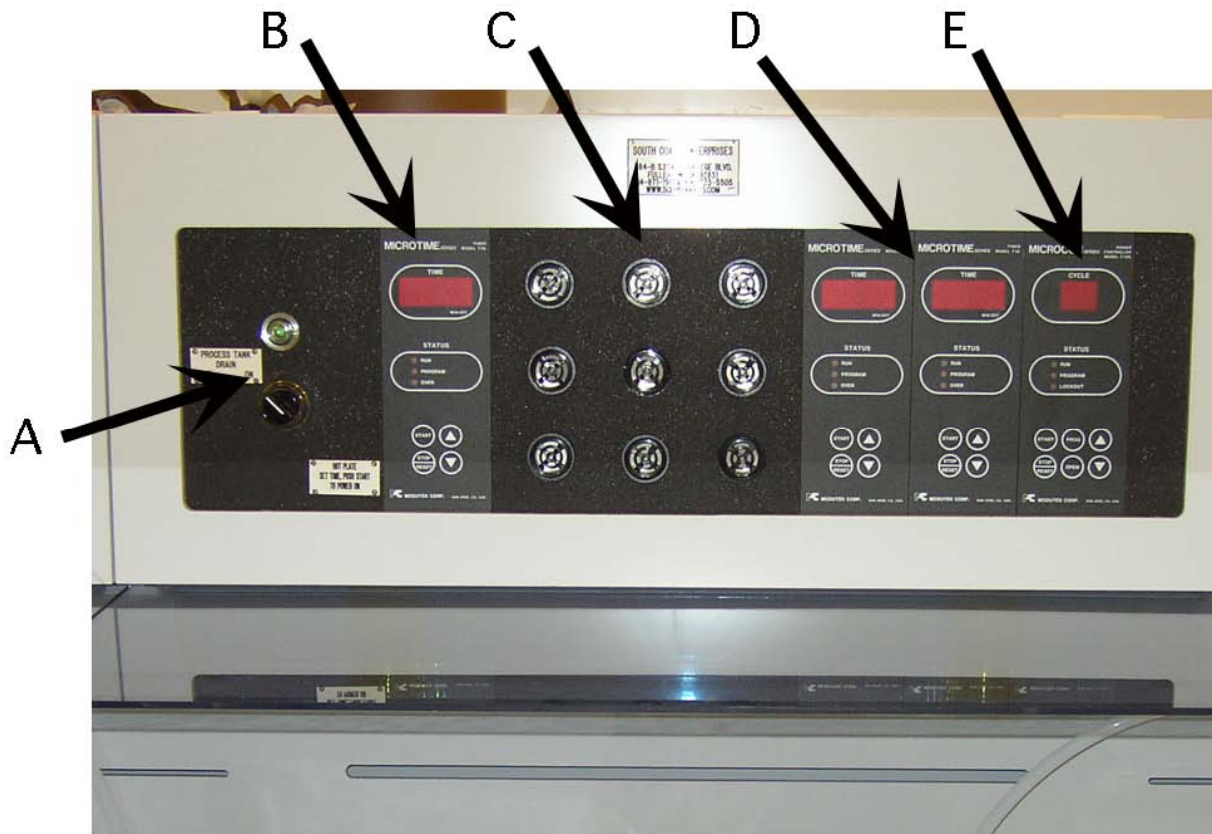

Fig 3 Center Headcase and Controls for Polypro sink
- K** Hydrofluoric acid etch tank. **EXTREME CAUTION** is required in using this tank which is unheated but connected to the HF drain. Always label the tank with the concentration being used ie 10:1, 6:1 etc. BOE may also be used in this tank and must be so labeled. **MAKE SURE BOTH DRAIN VALVES ARE CLOSED BEFORE POURING CHEMICALS.** The drain for this tank is controlled by the process controller (item A in Fig 3.). Fill out the log book after **EACH** use **OR** whenever refilling the tank.
5.2 Center Headcase (refer to Fig 3).